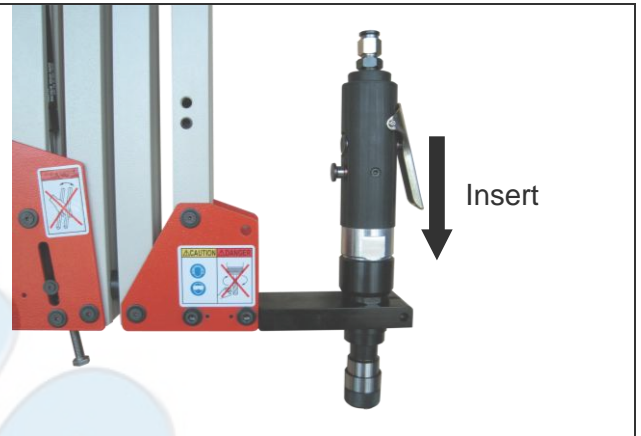

Figure 7-5
- (2) Insert spindle into bracket of tapping arm, make sure spindle is completely into the bracket (see Figure 7-5).
- (3) Fasten the socket head bolt to avoid damages which may be caused by loosened parts.